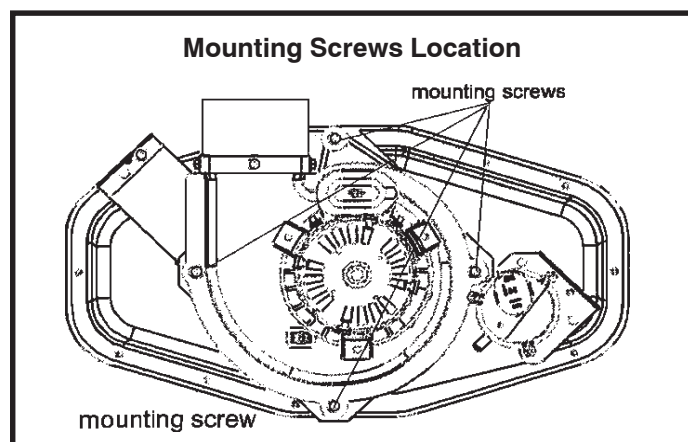

Figure 15
1. Remove the four mounting screws (Figure 15) which secure the combustion air inducer / pressure switch assembly to the orifice plate. Lift the assembly and rotate it 90° clockwise or counter clockwise to either the 3 o'clock position or 9 o'clock position. Resecure with four screws. Gasket should be left in place.